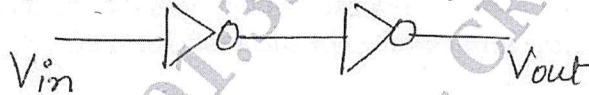

Fig. Q4 (a)
- 4 a. Describe the delay unit τ in terms of sheet resistance and area capacitance for the CMOS inverter pair shown in Fig. Q4 (a). Calculate the total delay. (08 Marks)
- b. Calculate the area of capacitance of a multilayer structure shown in Fig. Q4 (b), if feature size = $5 \mu\text{m}$ and relative value of metal to substrate = 0.075, polysilicon = 0.1, diffusion = 0.25. (08 Marks)